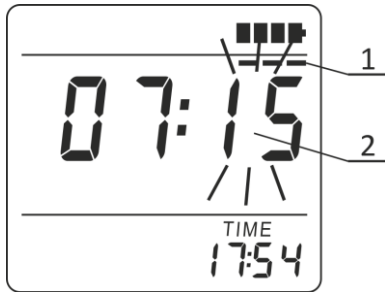

Figure 2.16 – LCD of the radiometer
- alarm clock symbol (1) (if the alarm clock is on);
- battery status symbol (2);
- time of the alarm clock triggering (3);
- current time (4).
To proceed to the submode of programming of the alarm clock triggering time, press and hold THRESHOLD button until a stripe (1) “moving” across the instantaneous value indicator appears on the LCD, and the minute digits of alarm clock triggering (2) start blinking (Figure 2.16).